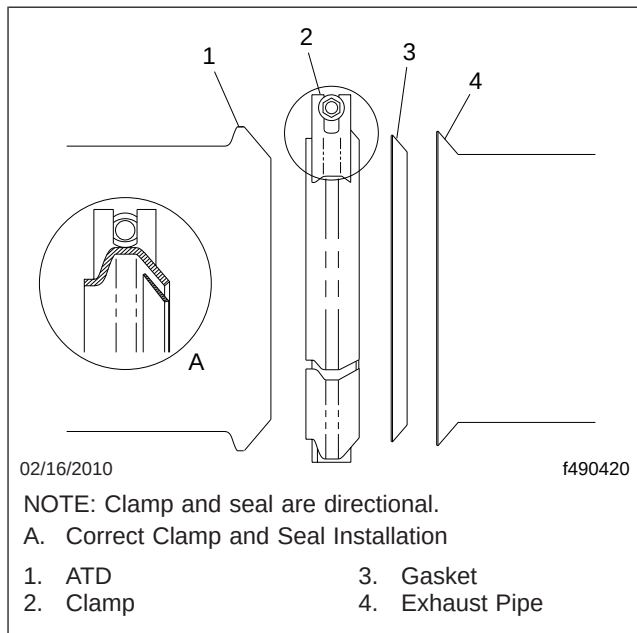

Fig. 2, Spherical Clamp Installation
3. Align the ATD fore and aft to match the ATD inlet and outlet pipes, then install the two spherical clamps. Do not tighten at this time. See Fig. 2 for proper installation.
- Align the SCR catalyst inlet to the exhaust pipe, and install the spherical clamp. Do not tighten at this time. See Fig. 2 for proper installation.